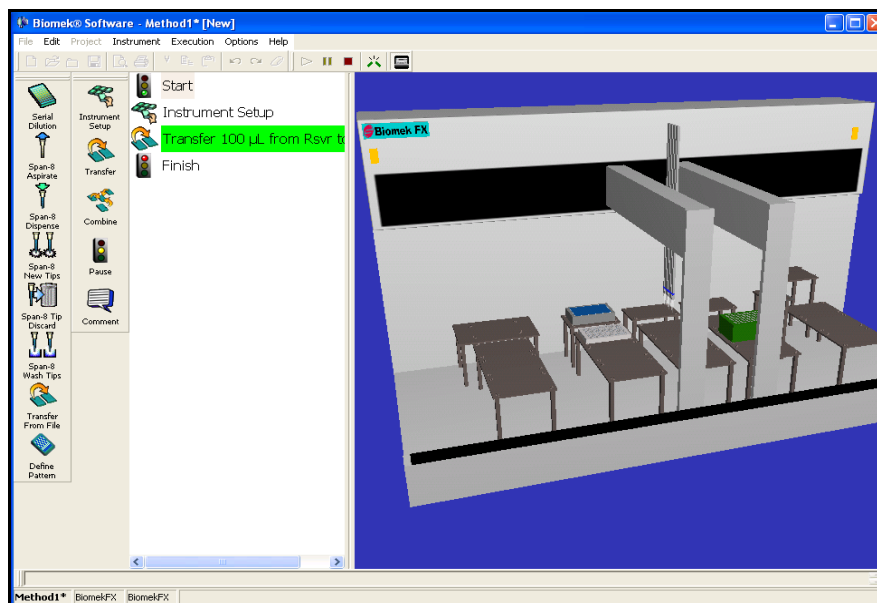

Figure 5-16. Running a method in simulation
3. Choose **Accept**. Now, when a method is run, an animated 3-D model of the Biomek instrument is displayed (Figure 5-16). You can now watch a simulation of the Biomek instrument perform the steps in the method.